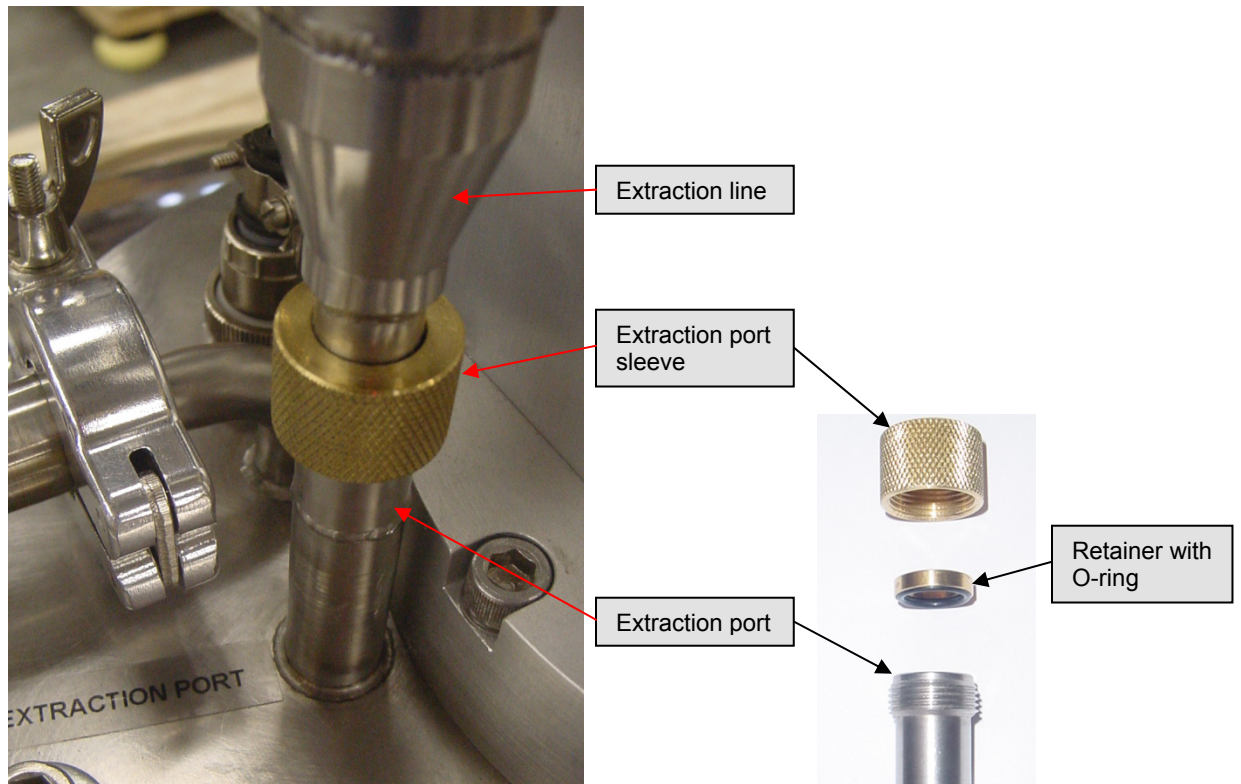

Figure 7-11a: Extraction line installed in Dewar Figure 7-11b: Extraction port detail
5. Remove the extraction line. **See Figure 7-11a.**
7. Remove the extraction line. **See Figure 7-11a.**